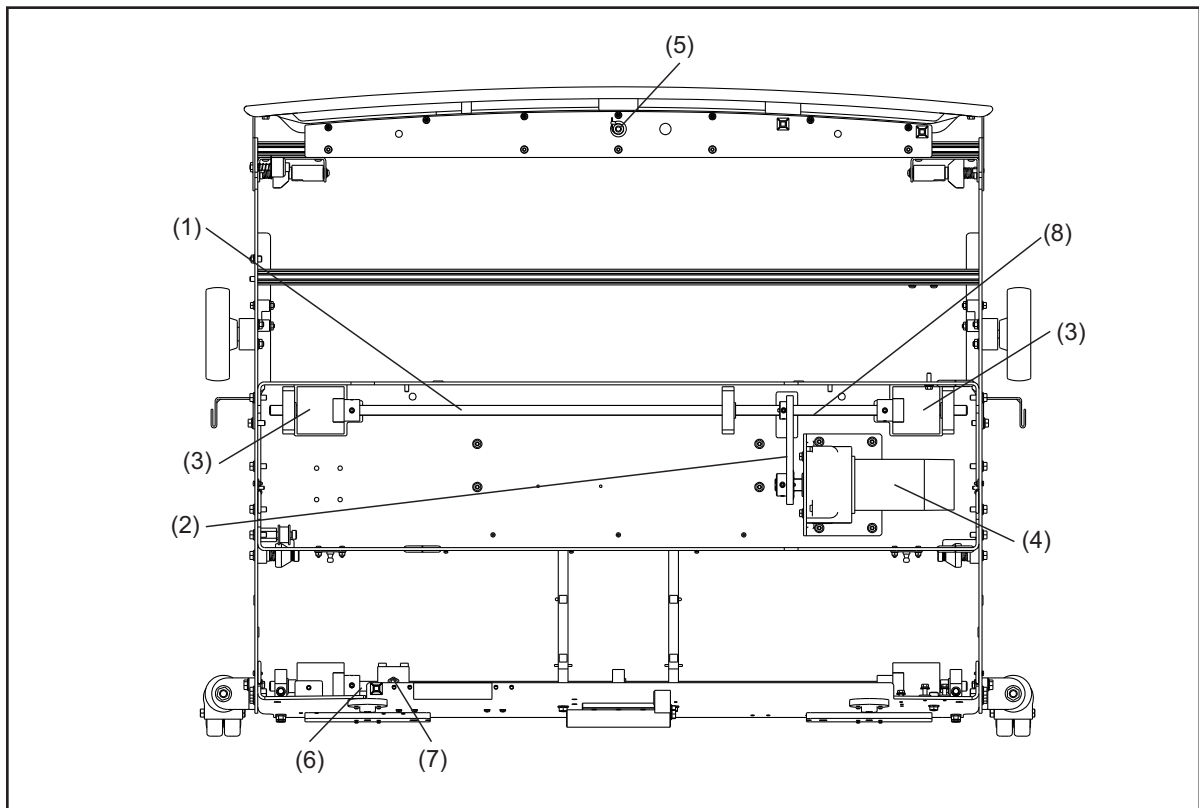

Figure 7-7. Traction Drive System
1. The machine travels up and down the lane by means of a traction drive motor connected through a chain to two drive wheels. Refer to *Figure 7-7*.